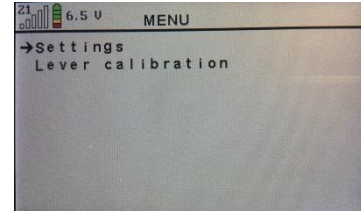

figure: 16
- Switch on the remote control and activate the remote control menu by pressing the ✓ button (see *figure 16*).